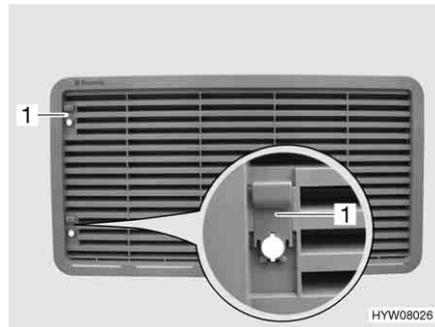
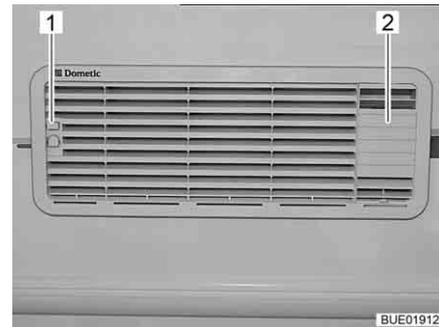

Fig. 173 Refrigerator ventilation grill
Fig. 174 Refrigerator ventilation grill
- Depending on the version, push up the sliding trap (Fig. 173,1 or Fig. 174,1).
- Release the insert for exhaust emission (Fig. 174,2) at the top and remove.